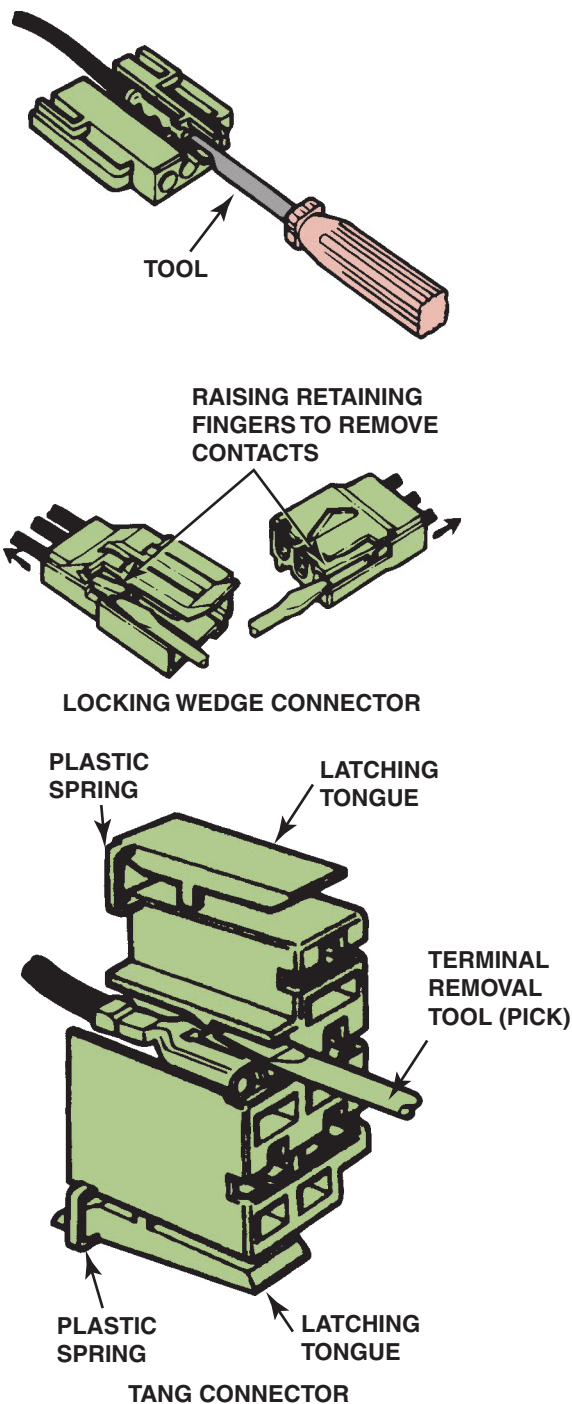

FIGURE 44-17 Use a small removal tool, sometimes called a pick, to release terminals from the connector.
- STEP 4** Using a pick, look for the slot in the plastic connector where the lock tang is located, depress the lock tang, and gently remove the terminal from the connector. ● **SEE FIGURE 44-17.**